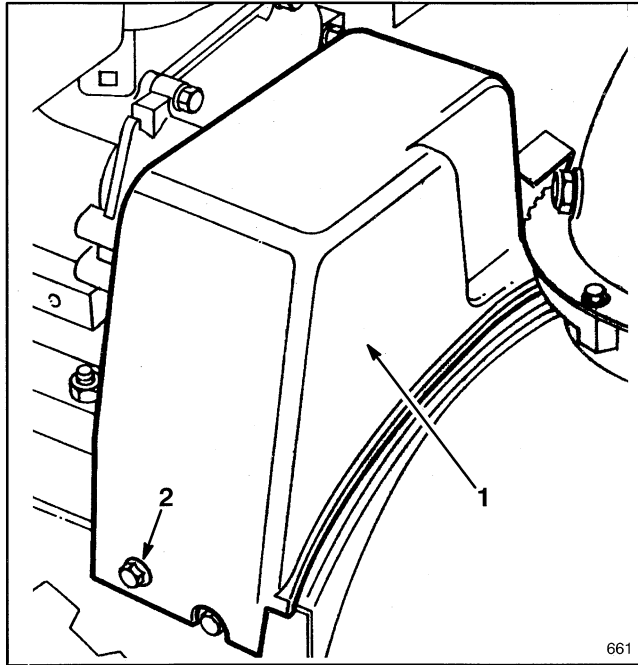

Figure 24
When auger/impeller drive belt (Fig. 24) becomes worn, stretched, oil-soaked or otherwise damaged, belt replacement is required.
2. Remove (2) screws holding belt cover in place and set cover aside (Fig. 24).
3. Remove (2) screws holding belt cover in place and set cover aside (Fig. 24).